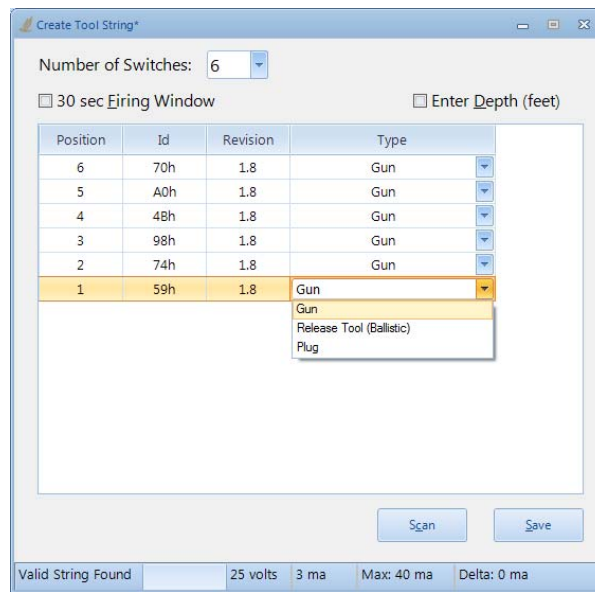

Figure 20
6. The Switch Unit IDs will be displayed along with the switch revision number in the Create Tool String File window as shown in Figure 20. The number of Perf Switches found must match the number of switches selected. If not, a String Count Mismatch popup occurs and the Scan Tool String must be repeated before the tool string file (file.gsi) can be saved.